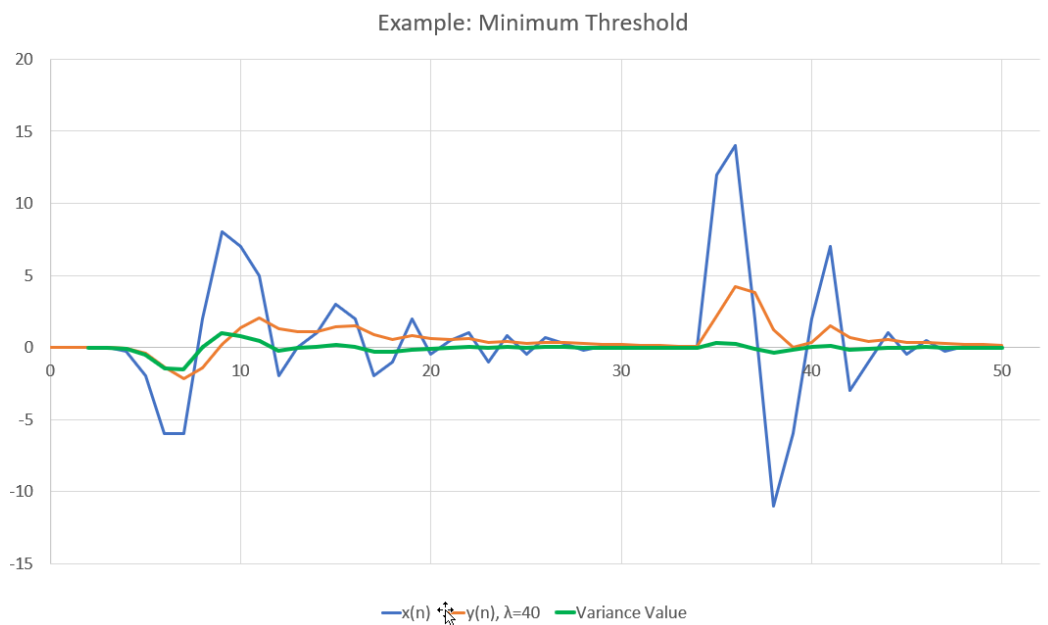

Figure 9: Putting it Together - Filtering with the UTS-ID
Fig. 9 shows a few things; $x(n)$, $y(n)$, and Variance Value (VV). Some of the numbers look like they would be close so the data has been converted to a table as well.